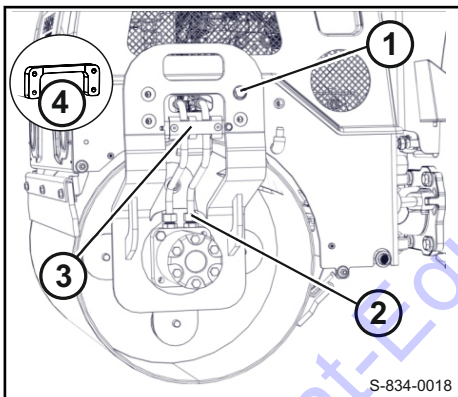

Fig. 212
10. Mark the hydraulic hoses 2 ↪ Fig. 212 and disconnect them from the ports.